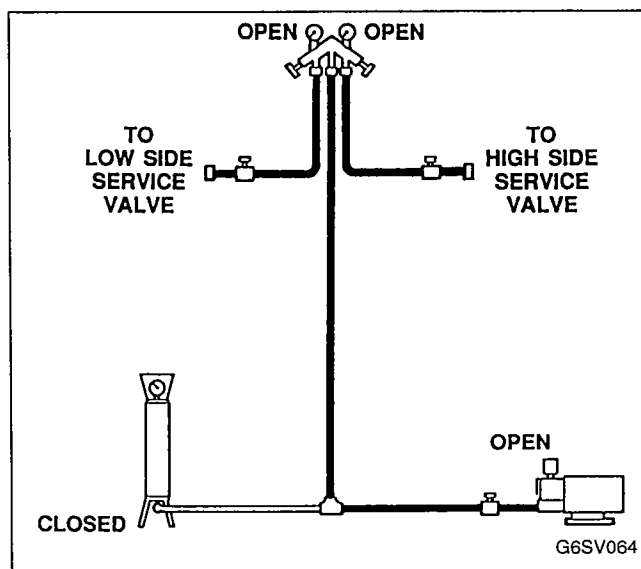

FIGURE 44. EVACUATION OF SELF-CONTAINED SYSTEMS
- b. Discharge service valve.Connect manifold gauges, dial-a-charge (or weigh-in method), and vacuum pump to ice machine, Figure 44.